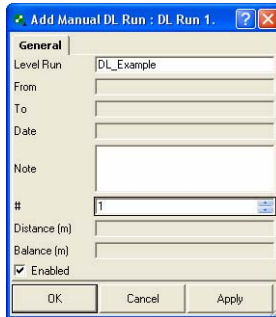

Figure 5-94. Add Manual DL Run dialog box
2. In the *General* tab of the *Add Manual DL Run* dialog box (Figure 5-94) type in the name of the leveling job and set the number of the leveling.